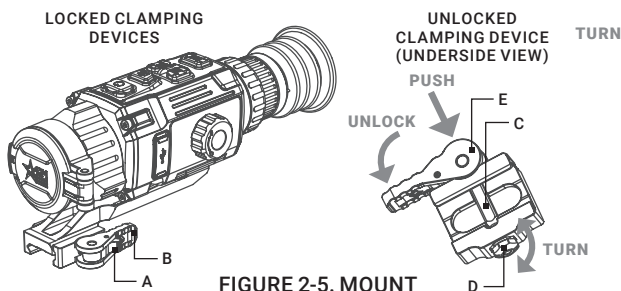

FIGURE 2-5. MOUNT
2. With the clamping device unlocked (as shown in Figure 2-5), push the cam (E) towards the arrow, which will cause the nut (D) to slide out of its hole.
3. To tighten/ loosen the clamping device, push down on the cam (E) and turn the nut (D) CW/ CCW respectively, in one-two increments (see note below). Much like when the cam (E) is released, backward-moving spring will cause the nut (D) to slide back into its hole.